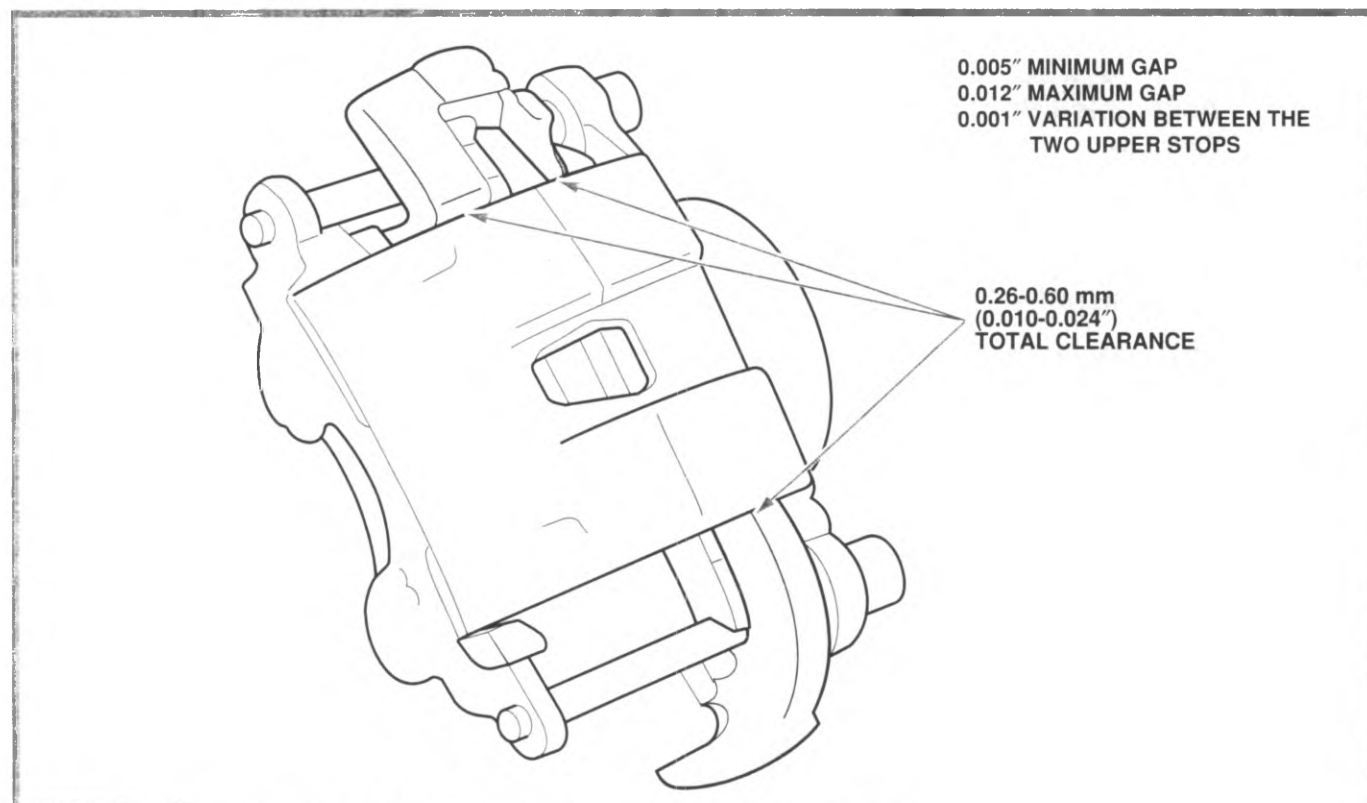

Figure 6-34, Measuring Caliper and Mounting Bracket Wear
4. Measure clearance between the caliper and mounting bracket (figure 6-34) with a feeler gauge. Total clearance should be 0.010 to 0.024 in. (0.26 to 0.60 mm) and constant from top to bottom. Caliper clearance may vary. Check the service manual for correct specification.